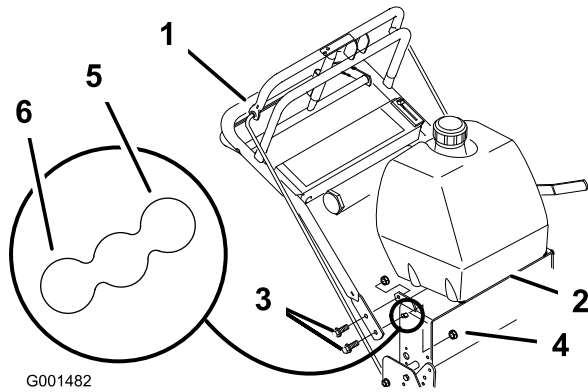

Figure 20
- Loosen the upper flange bolts (3/8 x 1 inch) and flange nut securing handle to rear frame (Figure 20).
- Remove the lower flange bolts (3/8 x 1 inch) and flange nuts securing handle to rear frame (Figure 20).